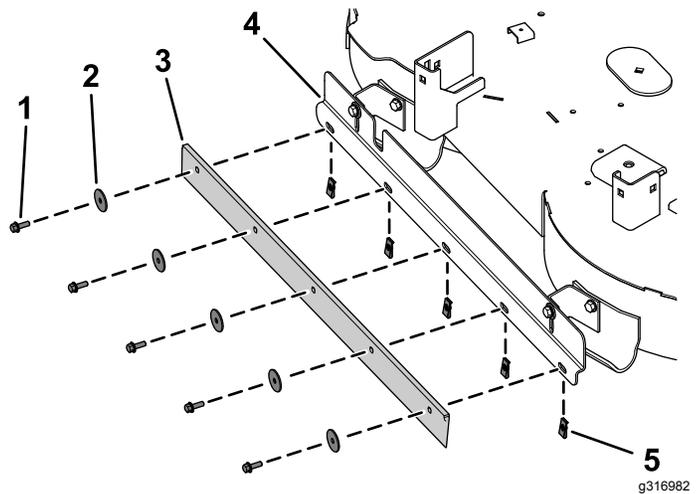

Figure 3
2. Install the 5 speed nuts onto the striping bracket (Figure 3).
3. Secure the wiper to striper bracket and speed nuts using 5 hex-head screws (1/4 x 3/4 inch) and 5 washers (Figure 3).